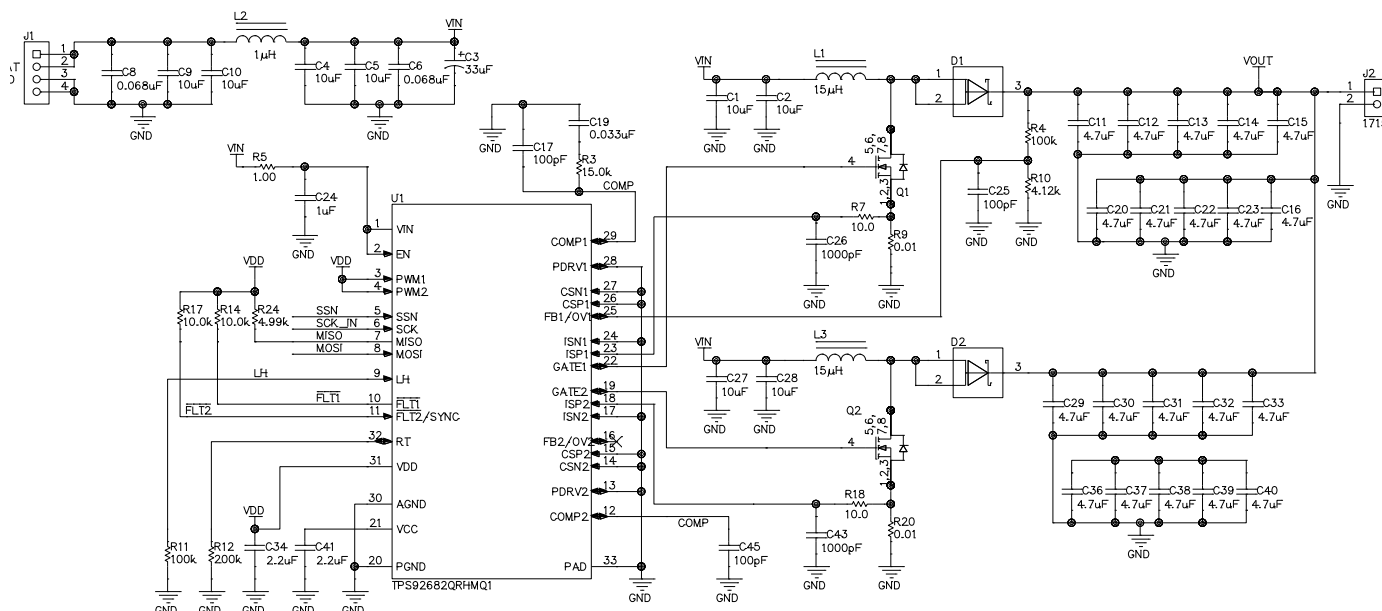

图 8-24. CV Mode Two-Phase BOOST
图 8-24 shows the schematic for a two-phase Boost Constant Voltage (CV) regulator.
Eight $10\text{-}\mu\text{F}$, 50-V ceramic capacitors are used in parallel to achieve a combined input capacitance of $80 \text{ }\mu\text{F}$. As shown in 图 8-24, an additional $33\text{-}\mu\text{F}$, 50-V electrolytic capacitor and a $1\text{-}\mu\text{H}$ inductor are also used at the input terminal. The electrolytic capacitor is used to further decrease overshoot and undershoot during load transient. The input inductor is used to decrease the switching noise and improve EMI performance.